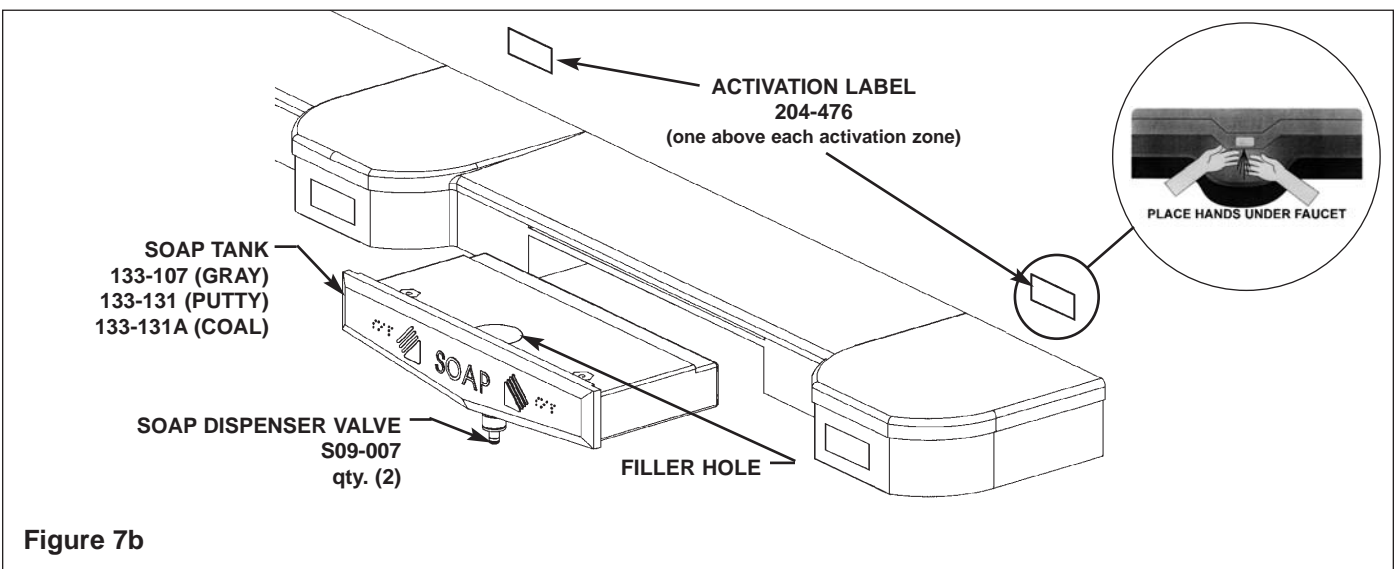

Figure 7b
3. Pour the soap into each soap tank's filler hole (see Figure 7b).